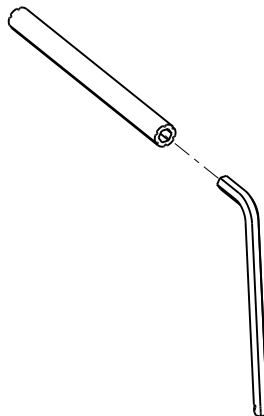

Figure 12 – Hex wrench and removal tool extension
2. Remove the hex wrench and removal tool extension from the center cover assembly (Figure 12).